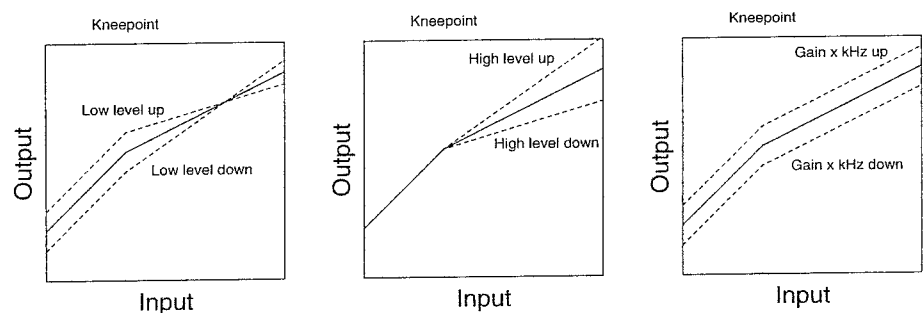

Fig.3. DigiFocus - input/output curves in the high-frequency channel
**B. The High-Frequency channel, HF** (see fig.3).